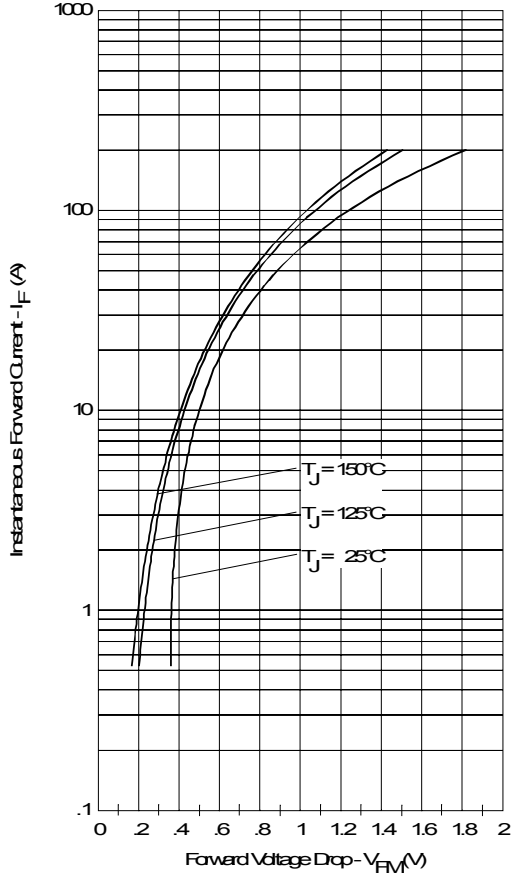

Fig. 1 - Max. Forward Voltage Drop Characteristics (Per Leg)
| $V_{FM}$ Max. Forward Voltage Drop (Per Leg) * See Fig. 1 (1)    | 0.56  | V                | @ 15A   |